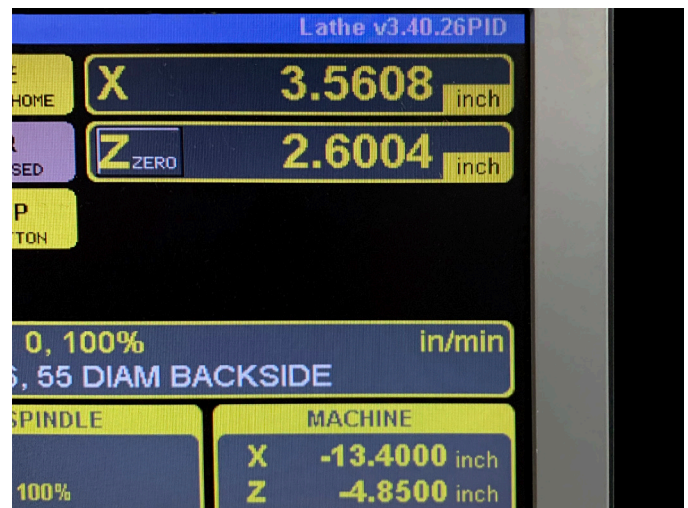

FIGURE 9—The current software version is displayed in the blue bar at the top, right corner of the monitor.
3. When the controller command screen comes up, the current software that is on the controller will show in the top, right corner of the screen (see Figure 9). The example below shows, “Lathe v3.40.26PID.”